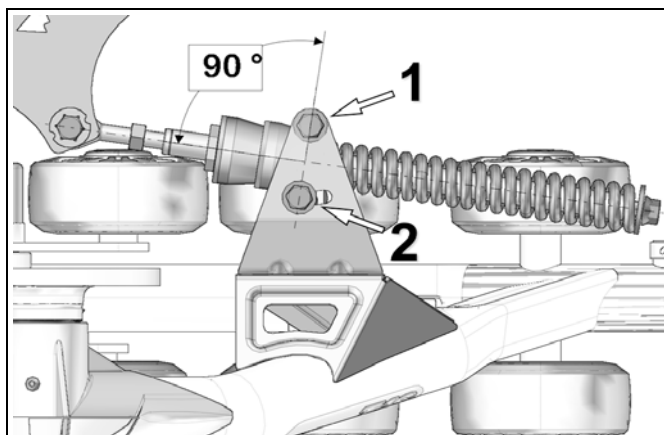

Figure 18
- Position the anti-rotation retainer at 90° (perpendicular) with the stabilizing rod. Tighten the two anti-rotation bracket mounting bolts (1 and 2) to 50 N•m of torque. Refer to Figure 18.